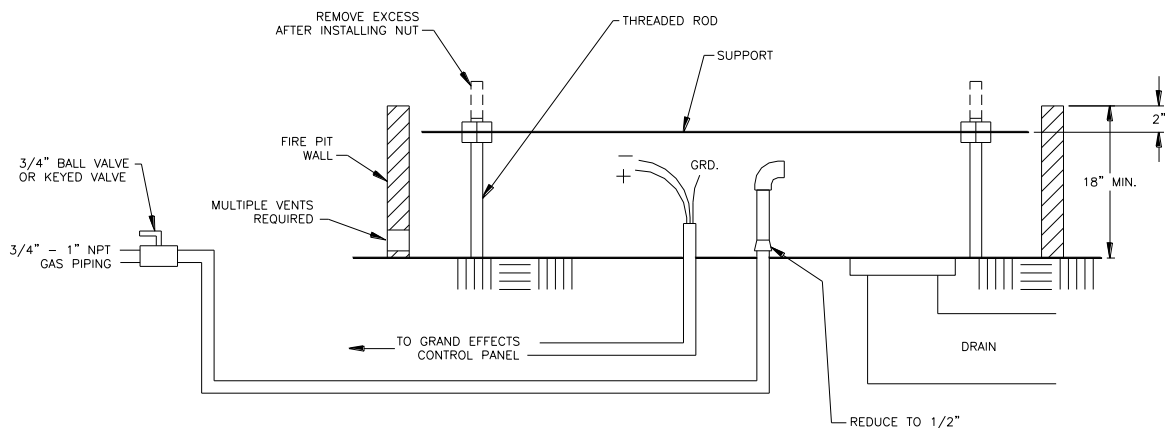
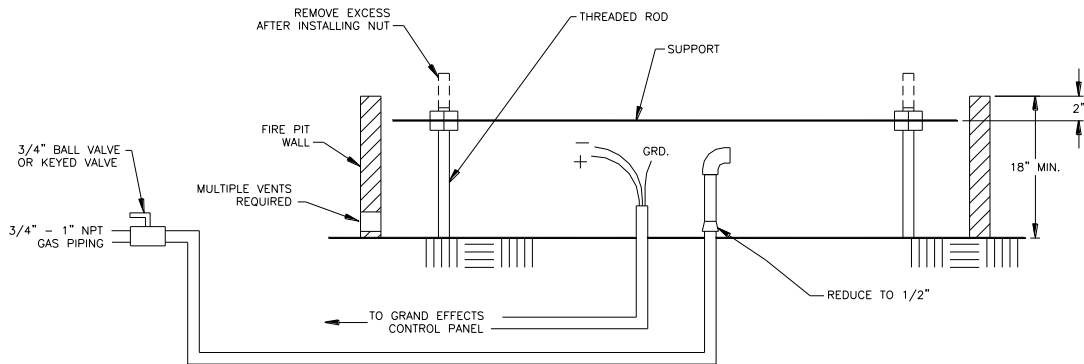

Fig. 4 (Natural Gas)
Fig. 5 (Propane)
- 2.1 A gas pipe elbow must be installed on gas line for proper installation of gas hose. (See Fig. 4) Do not kink or make tight radius bend on gas hose.
- 2.8 Providing good drainage is critical as shown in Fig. 4
- 2.9 Venting (air gap at bottom of fire pit walls) is required as shown in Fig. 4 and Fig. 5.
**Note: 18" Minimum Depth Requirement of Fire Pit (as shown in Fig. 4 and Fig. 5)
Venting is required for cooling Burner Assembly (as shown in Fig. 4 and Fig. 5)**